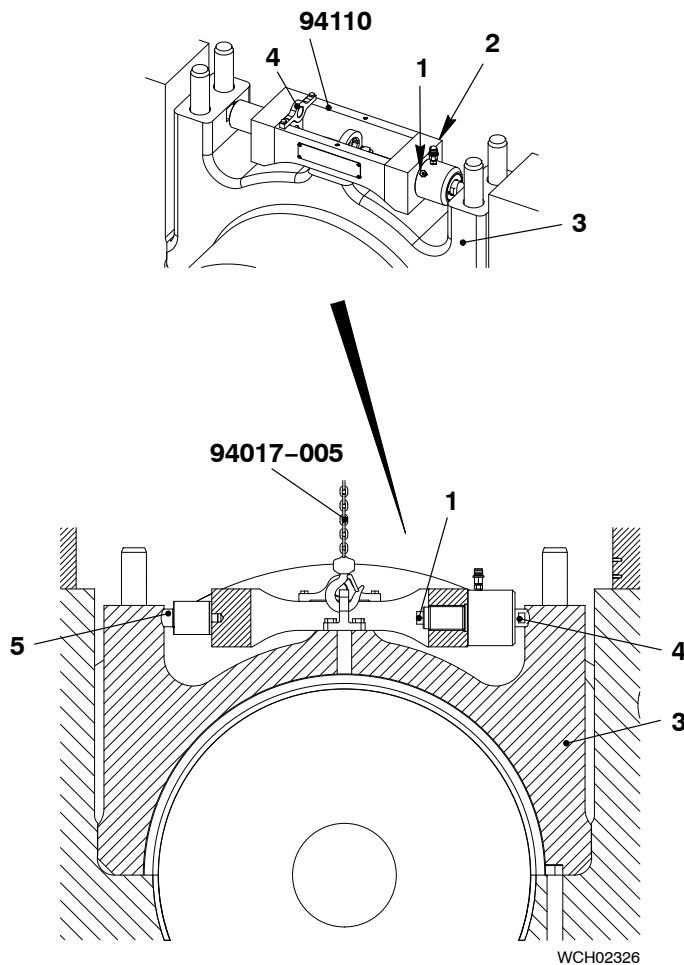

Fig. 5
Note: Use the lifting plate (4) only for the movement and installation of the thrust device (94110). If the lifting plate is not in use, attach it as shown in Fig. 5.